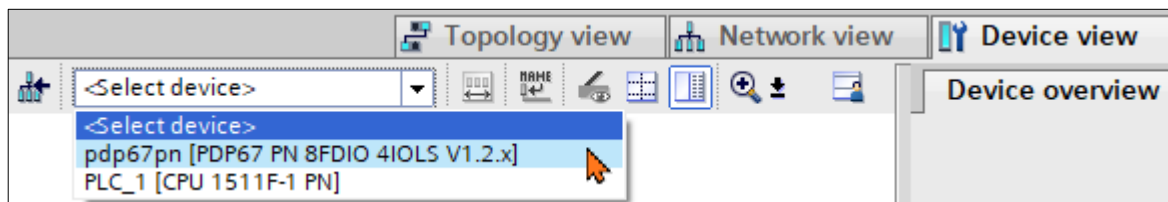

Figure 33: TIA Portal – Adding the I/O containers to the PDP67 device (Part 1, Start)
- ▶ Switch to “Device view” (if not previously selected) and select the device **pdp67pn** [...] (see Figure 33 [28]).